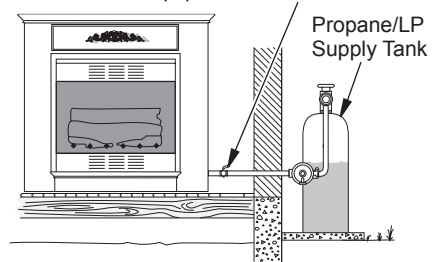

Figure 25 - Checking Gas Joints Propane/LP Gas (Shown with Optional Mantel)
3. Check all joints from gas meter to equipment shutoff valve for natural gas or propane/LP supply to equipment shutoff valve for propane/LP (see Figures 25 and 26). Apply noncorrosive leak detection fluid to all joints. Bubbles forming show a leak.
4. Check all joints from equipment shutoff valve to thermostat gas valve (see Figures 25 and 26, page 17). Apply noncorrosive leak detection fluid to all joints. Bubbles forming show a leak.